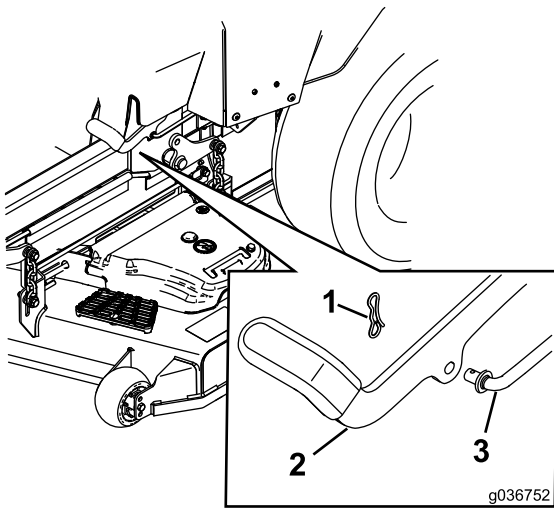

Figure 90
6. If an adjustment is necessary, disengage the parking brake. Remove the cotter pin from the brake linkage shaft (Figure 90).